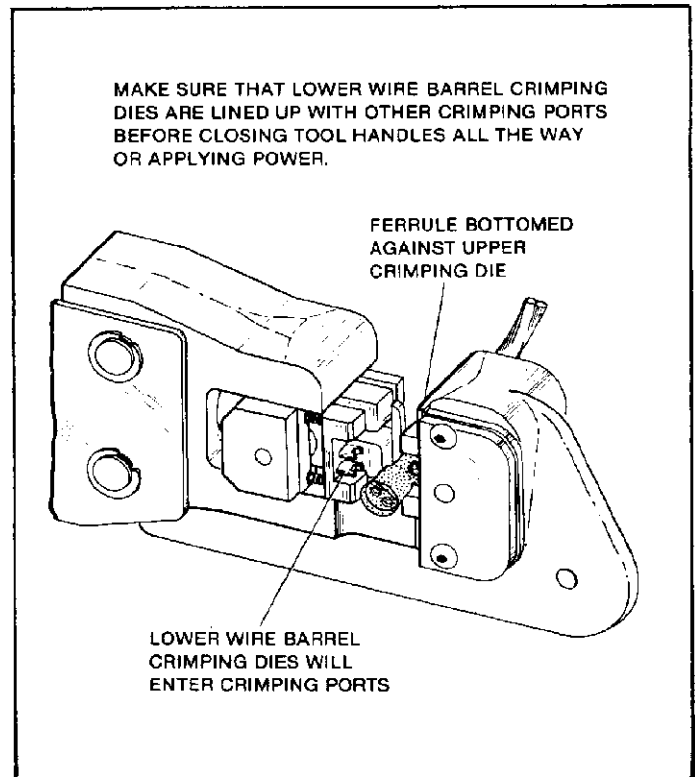

Figure 3
- Place contact in upper crimping die as shown in Figure 3.
- Push contact "up" so that upper barrel crimping dies enter crimping ports and ferrule bottoms against braid-ferrule crimping die. See Figure 3.
1. Place contact on stationary die as previously described. See Figures 3 and 4.